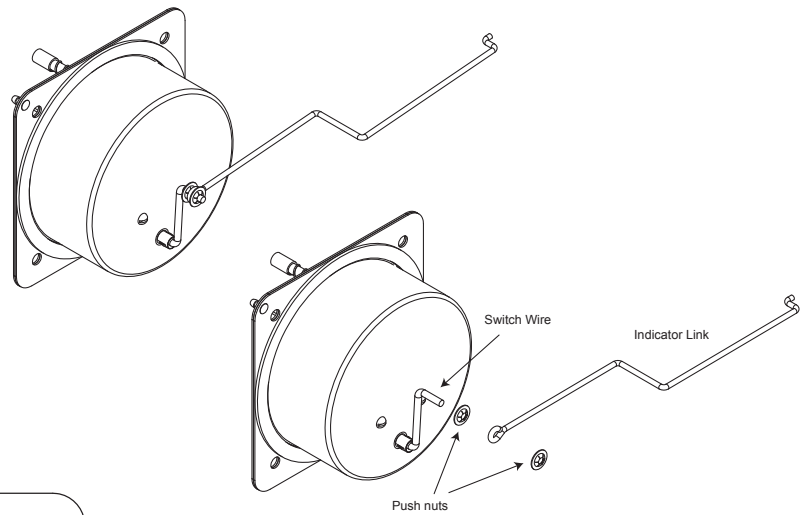

Figure 6: OCI
7. Place one pushnut on the switch wire. Place indicator link on switch wire and secure with a second pushnut (Figure 6).
6. Place one pushnut on the switch wire. Place indicator link on switch wire and secure with a second pushnut (**Figure 6**).